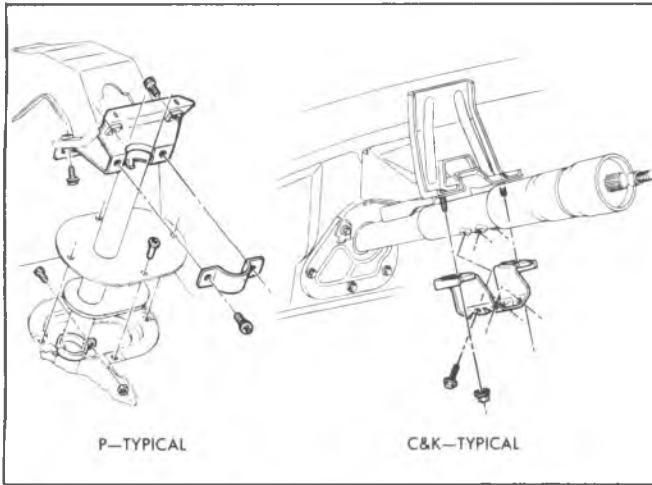

Fig. 3B4-34—Steering Column to Dash Panel-C, K Typical
7. Remove the transmission indicator cable, if so equipped (Fig. 3B4-33).
8. Remove the screws securing the two halves of the floor pan cover; then remove the screws securing the halves and seal to the floor pan and remove the covers (Fig. 3B4-34).